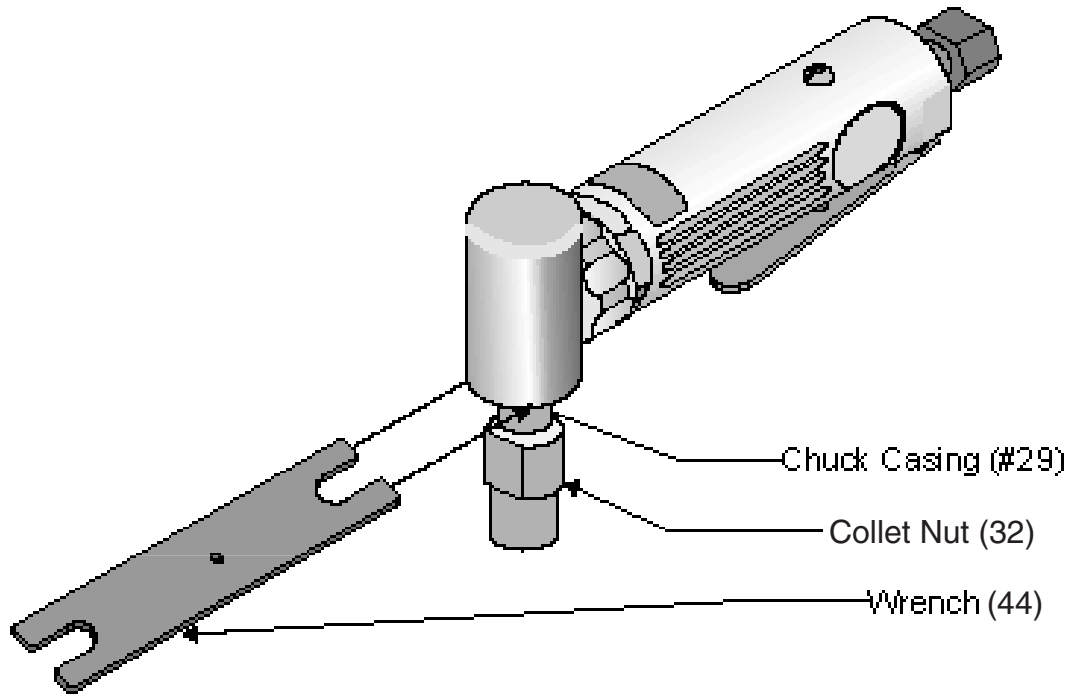

Figure 3 — Wrench Placement
6. Place the small end of WRENCH (44) on the flats of the CHUCK CASING as shown in Figure 3.